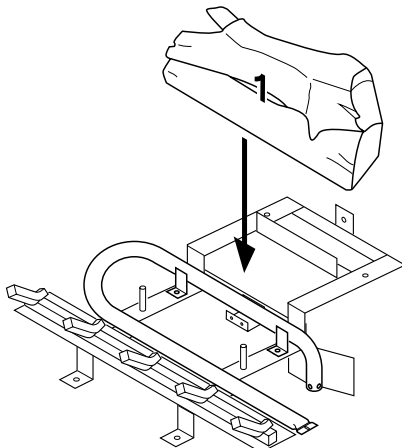

Figure 51 - Installing Log No. 1
2. Place log #1 (back log) on top of grate. Make sure the notches in the bottom of the log fit over the grate (see Figure 51).